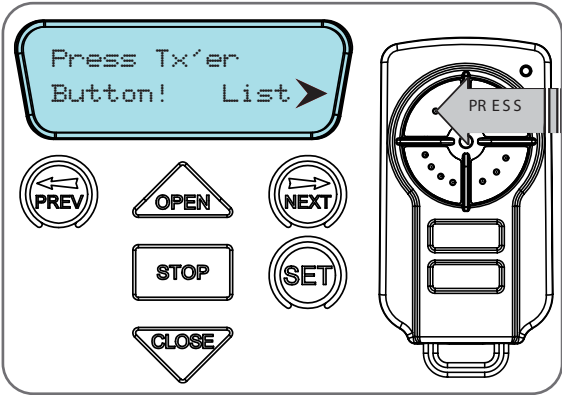

Fig 9.2
- b. Press the transmitter button you wish to use to operate the opener (e.g. button 1) **(Fig. 9.2)** .